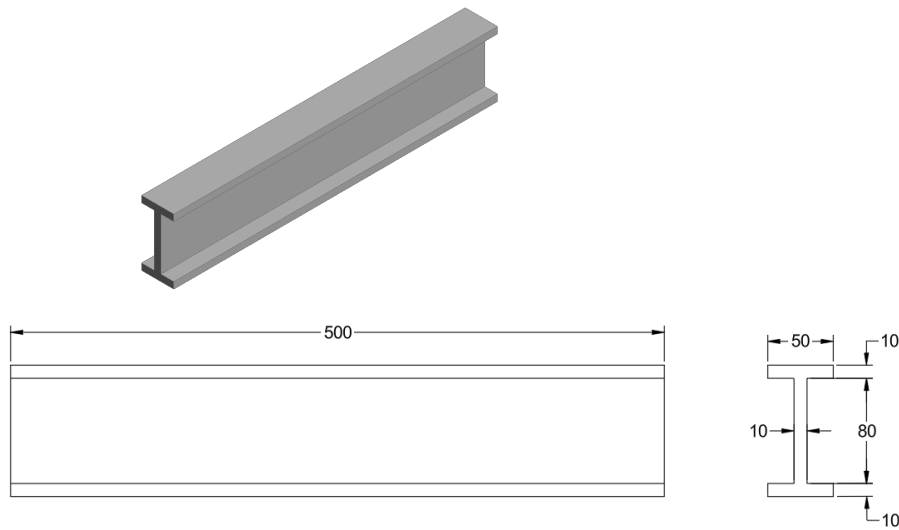
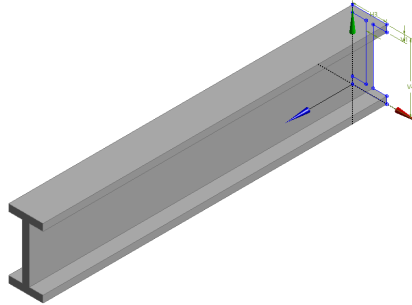

Figure 2-44 The I-Section cantilever beam with dimensions and boundary and loading conditions
Figure 2-45 Model created on the XY plane
7. Choose the **Millimeter** option from the **Units** menu of the **Menu** bar. Now, create the sketch on the XY plane and extrude, as shown in Figure 2-45. For dimension of the model, refer to Figure 2-44.